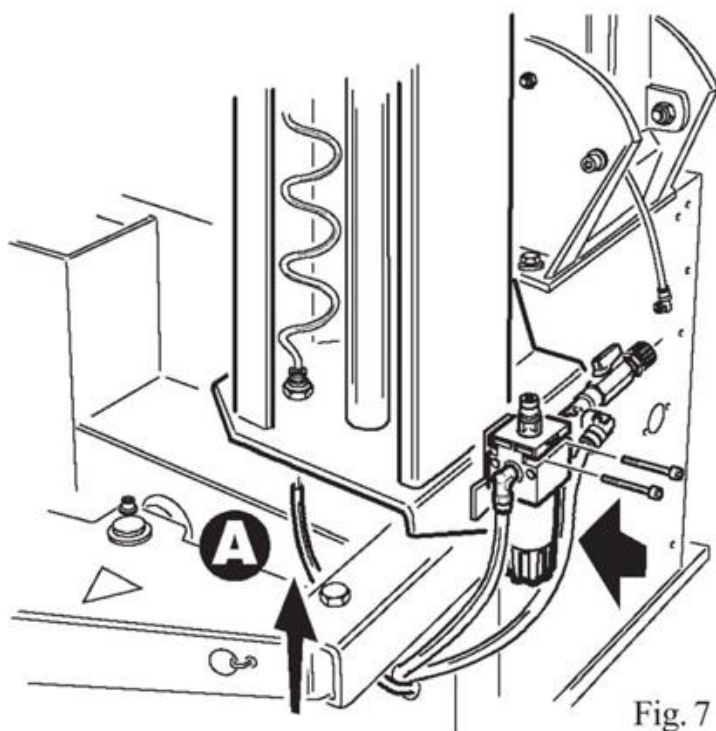

Fig. 7
- Make sure that the feeding hose of RF SYSTEM is correctly connected into the union under the base frame (fig. 7, ref. A)